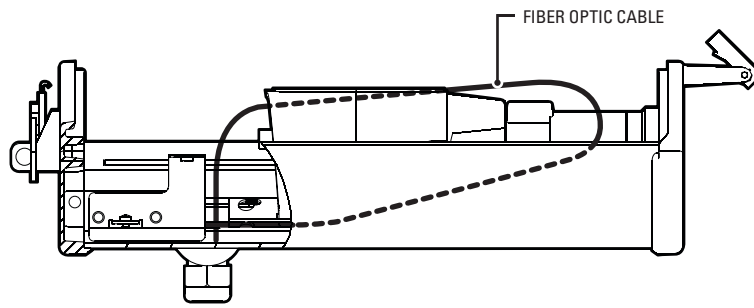

Figure 12. Routing Fiber Optic Cable in EH3512/EH3515 Enclosure
- i. Carefully loop the cable around the camera (refer to Figure 12).